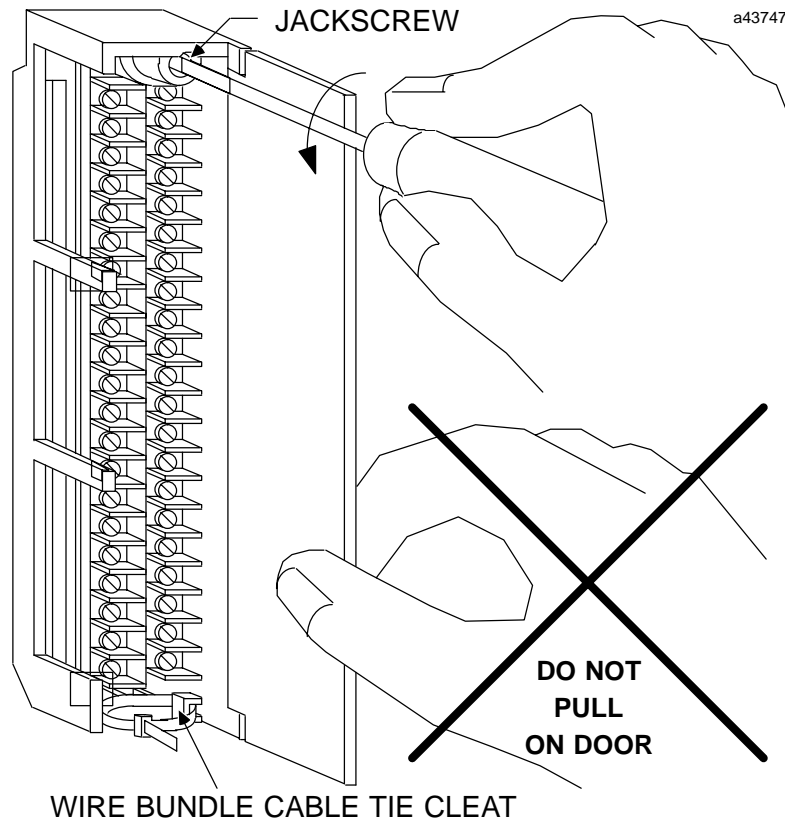

Figure 4. Removal of I/O Terminal Board
2. To remove the terminal board, grasp the top of the terminal board and swing it outward as shown in Figure 4.
4. The terminal board is designed to accept a maximum of (40) AWG #14 (2.10 mm^2) wires. If AWG #14 (2.10 mm^2) wires are to be used, then wire markers should be placed at least 8 inches (203 mm) from termination end to provide sufficient space for the hinged door to close.